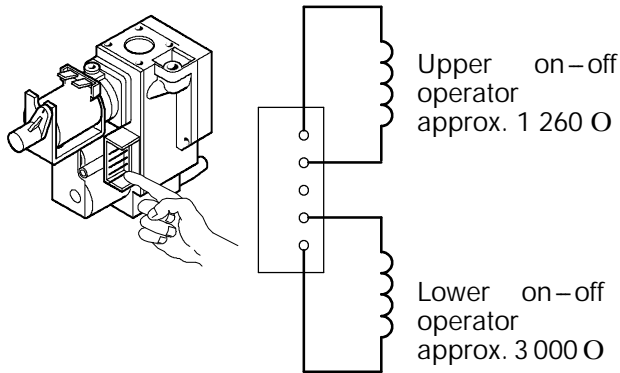

fig. 60
- 3 Measure the electrical resistance between the leads of the on-off operators as illustrated in fig. 60.